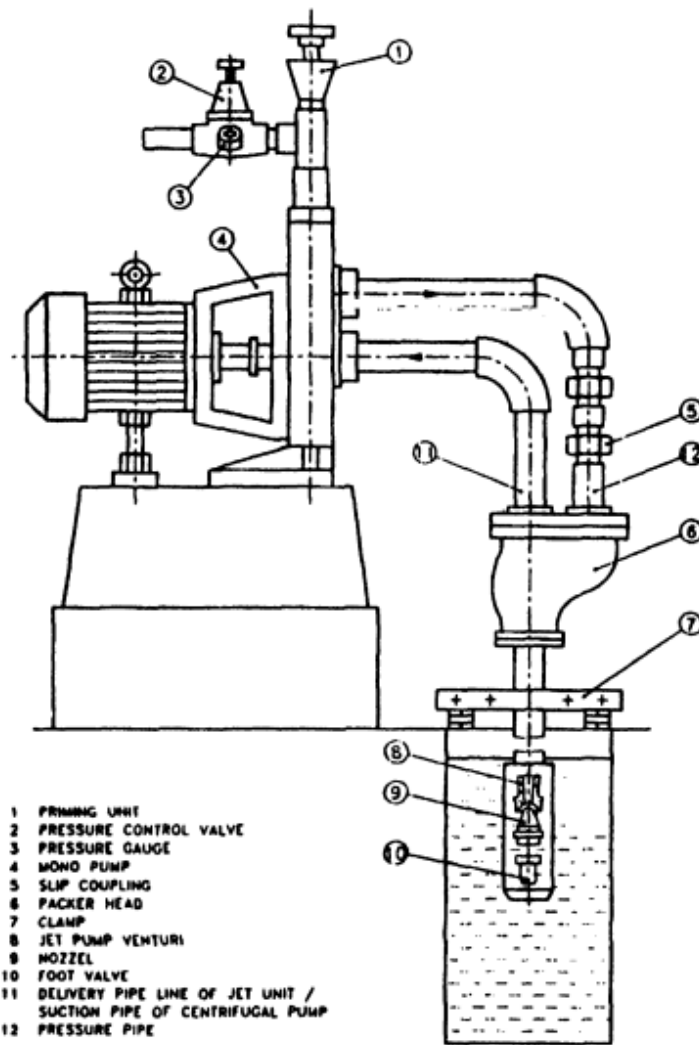

FIG. 2A TYPICAL FIELD INSTALLATION FOR PACKER TYPE JET
4.3 Installation of Packer Type Centrifugal Jet Pump (*see* Fig. 2A and Fig. 2B)